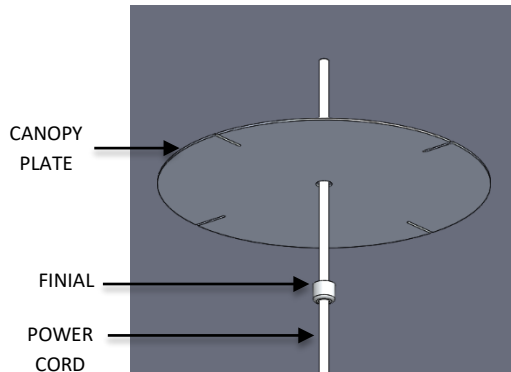

FIG. 24 – CANOPY PLATE
8. Once the GLOWRING LUMINAIRE is secured to the AIRCRAFT CABLES (4) at the GRIPLOCK (4), unthread the FINIAL from the CANOPY ASSEMBLY and lower the CANOPY PLATE and pass the CORD through the FINIAL and the CANOPY PLATE as shown in FIG. 24.